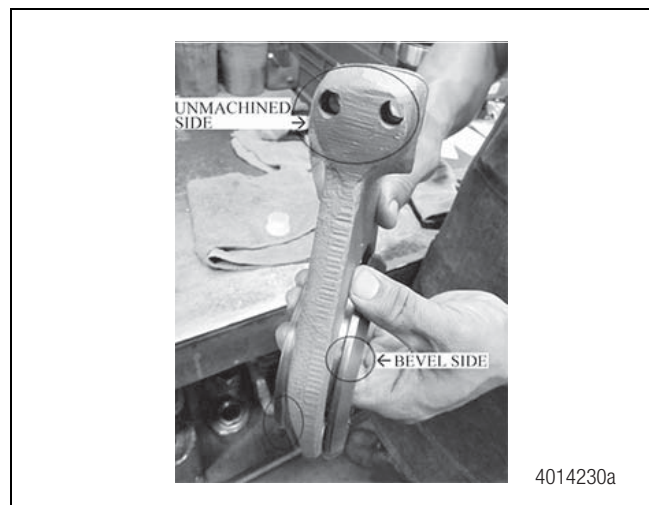

Figure 6.41
3. Slide the shift fork onto the clutch collar and place the two parts, as a unit, into the declutch housing. Figure 6.41.